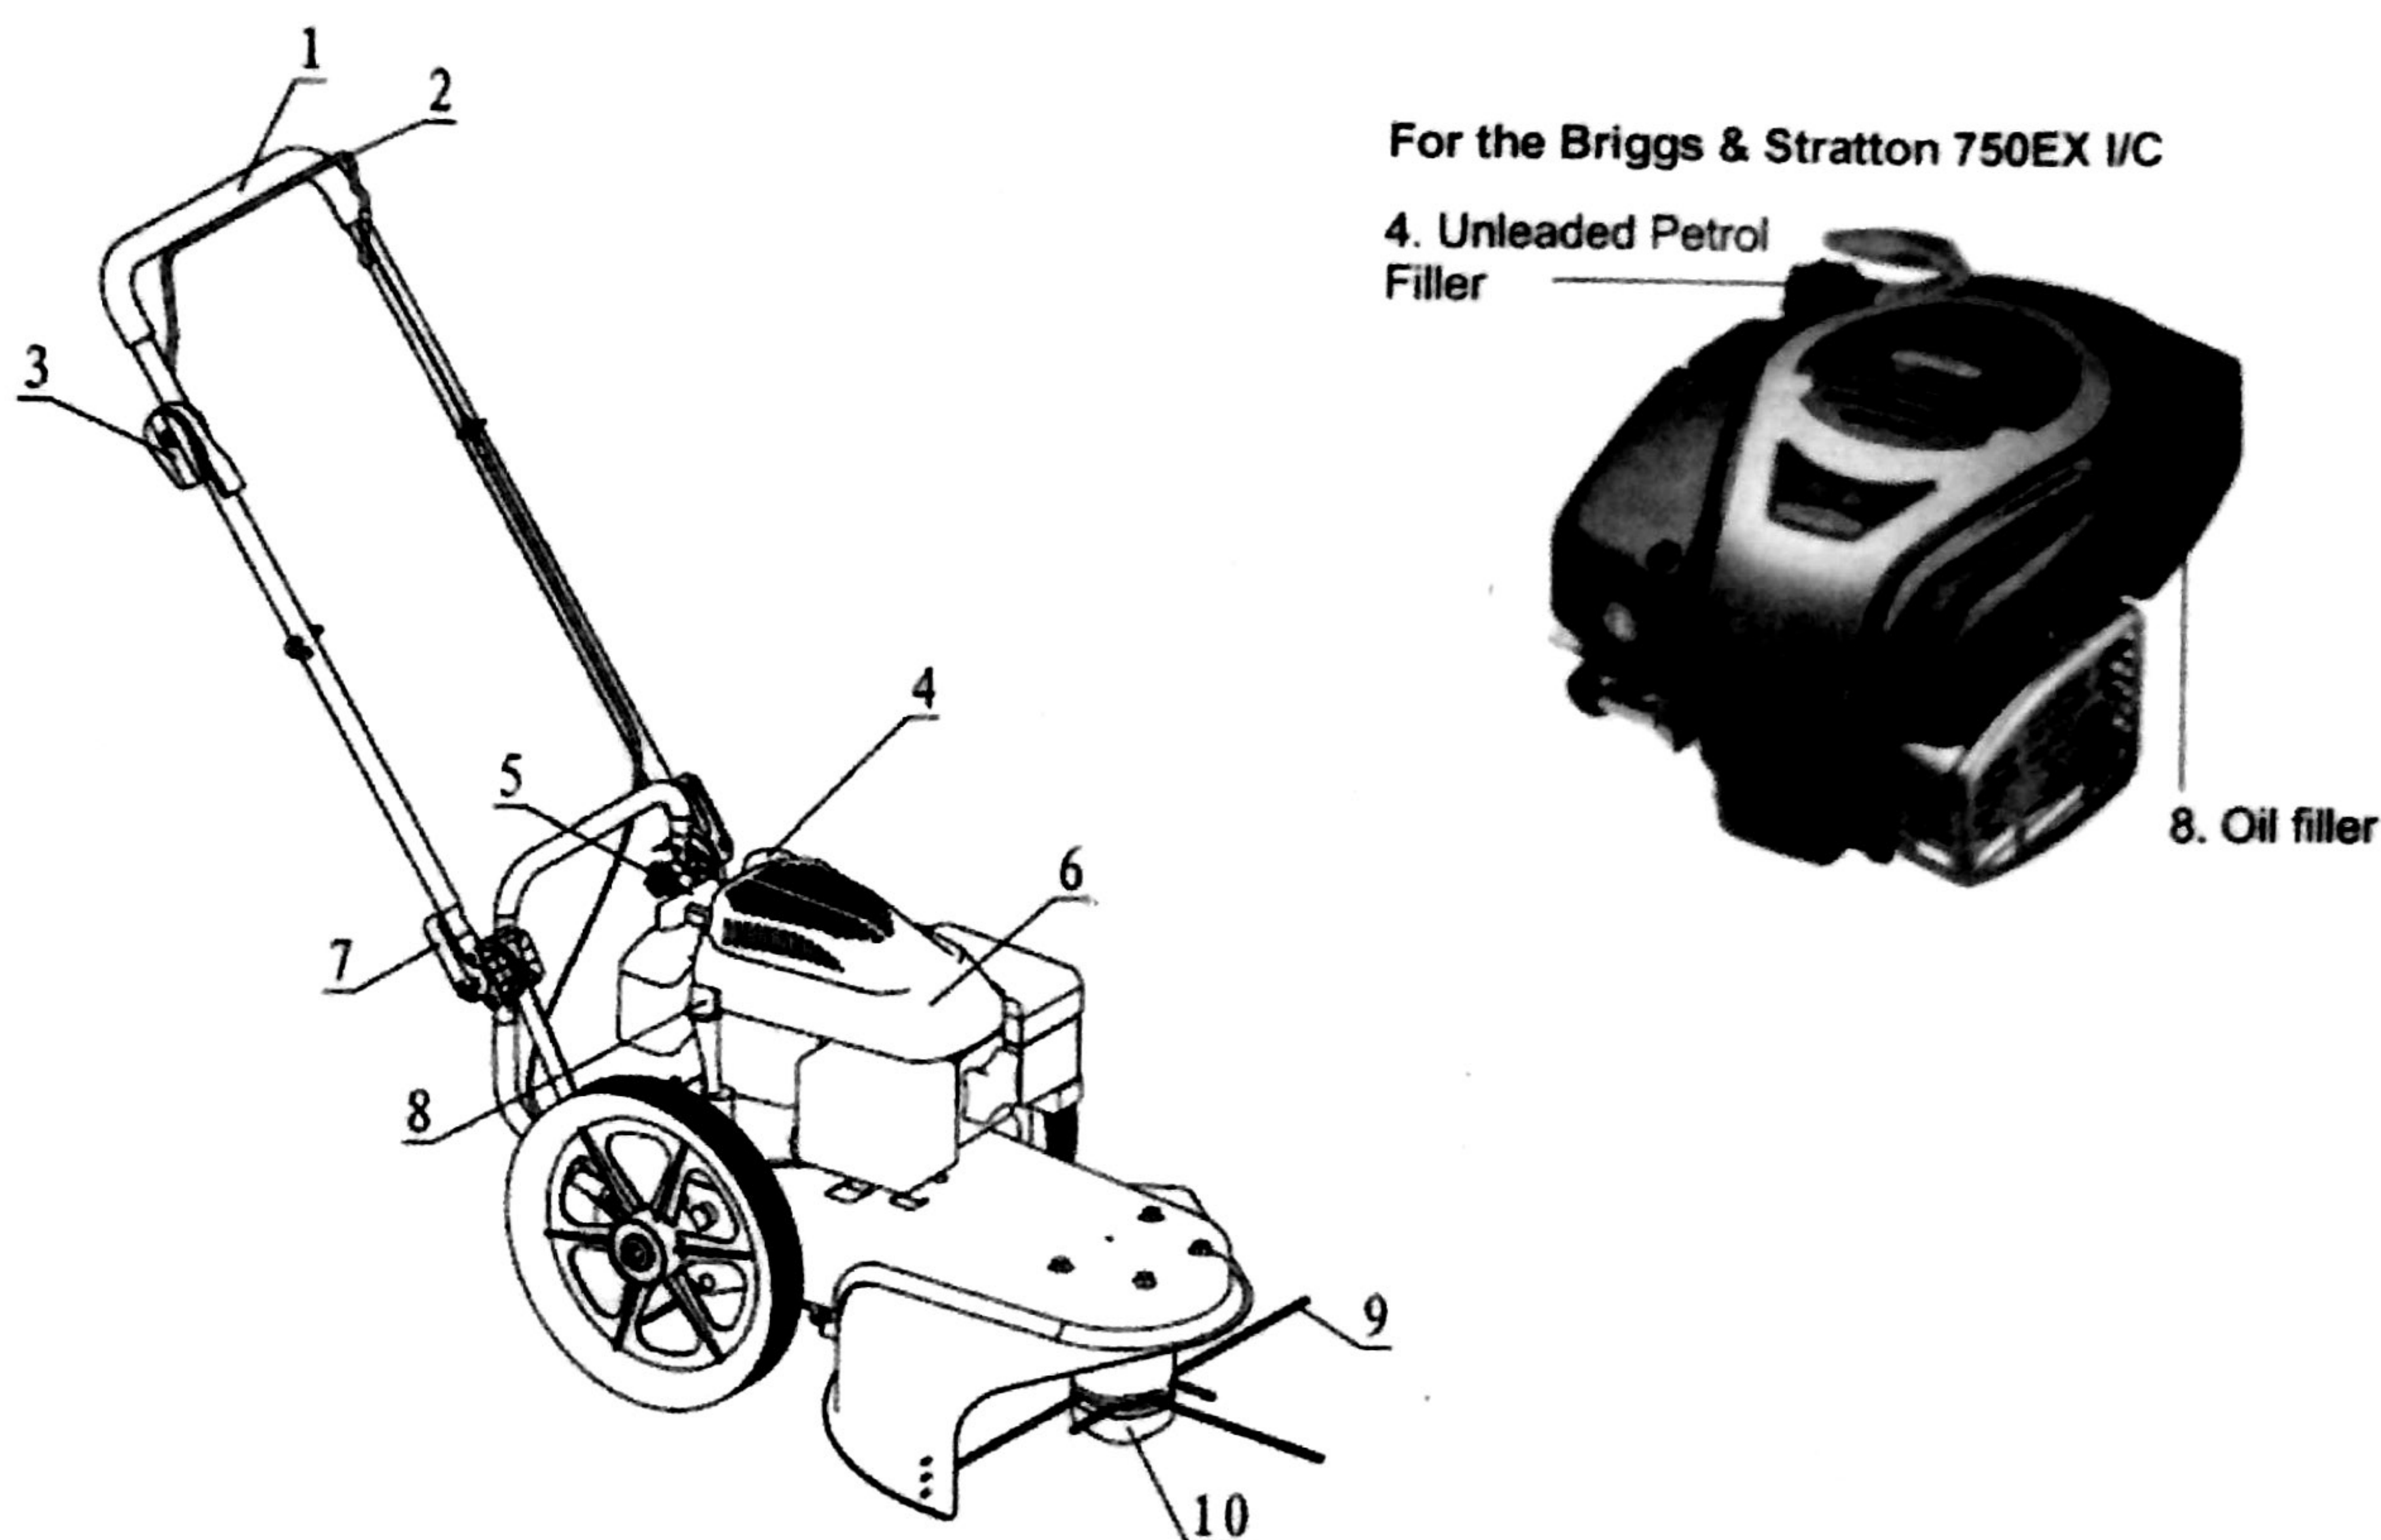

FIGURE 1: *Wheeled Trimmer Features*
Read this owner's manual and safety rules before operating your mower. Take time to compare the following illustration with the mower to familiarize yourself with the product and its controls. SEE FIGURE 1
1. Before each use, remove debris from the debris screen. SEE FIGURE 1 IN "FEATURES" SECTION. Debris can cause the engine to overheat. Wipe the debris screen with a cloth or paper towel.